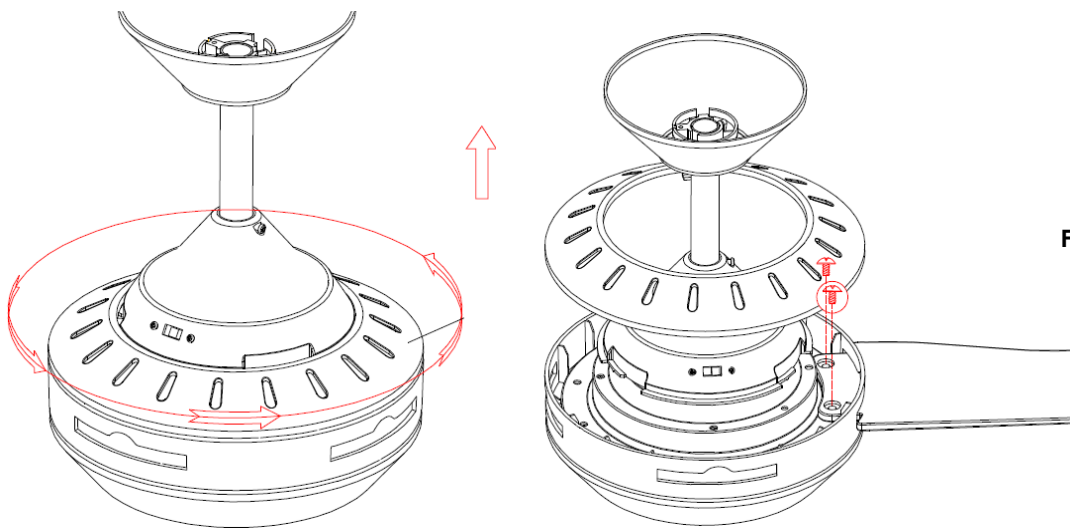

Fig. 8
Lift the fan assembly onto the mounting bracket. Ensure the key slot (A) of the hanger ball is positioned on the key pin (B) of the mounting bracket (C) to prevent the fan from rotating when in operation. **Fig. 8**